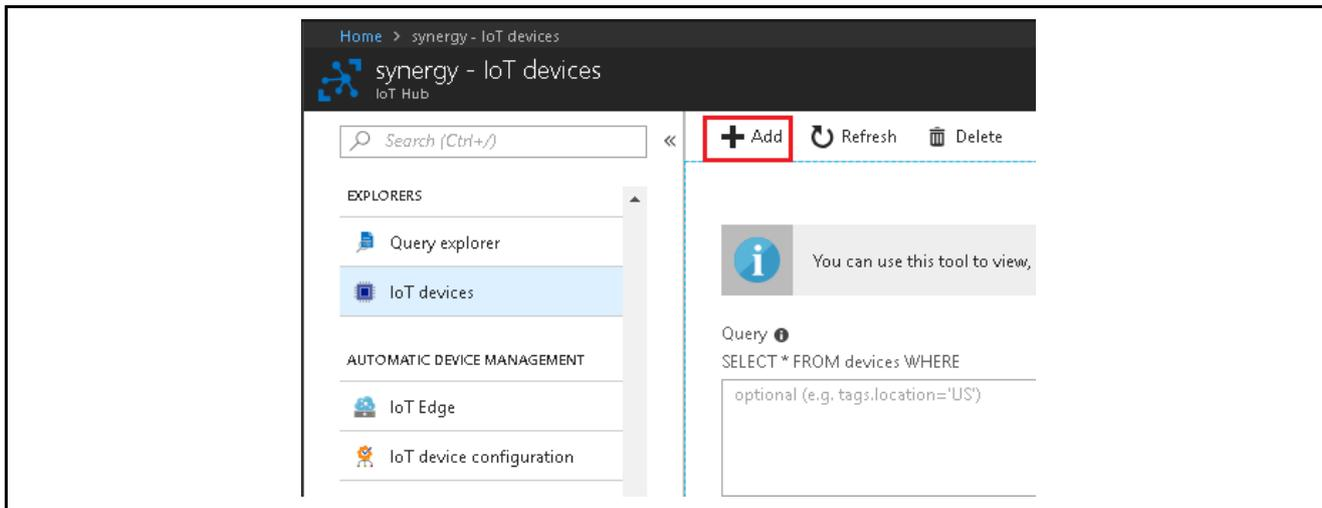

Figure 16. Device Added to IoT Hub
1. Click **IoT Devices** under the **Explorers**; this opens a new blade as shown in Figure 16. On the blade for **IoT devices**, click the “+ Add” button to add the new device to your IoT Hub. When **Add Device** is clicked, it opens a new blade to enter the device credentials, such as **Device ID**, **Authentication Type**.